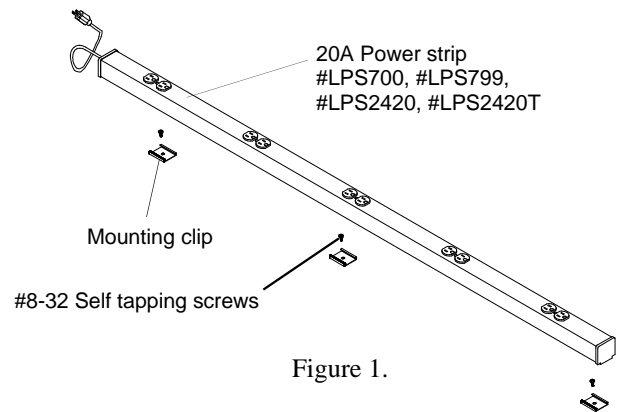
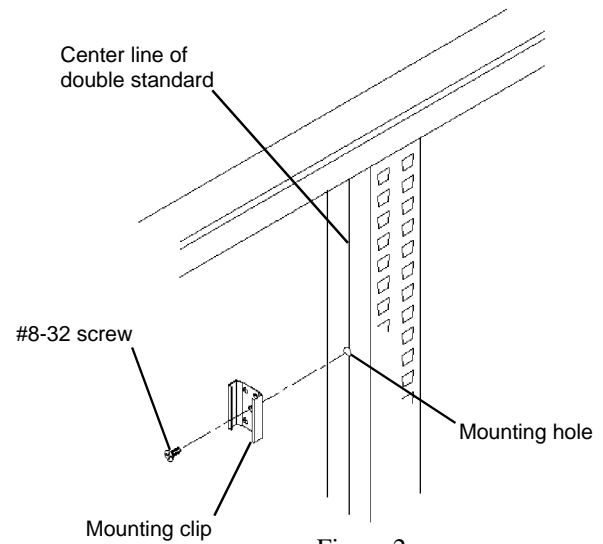

Figure 1.
Figure 2.
1. The Power Strip includes two to three **Mounting Clips** and two to three **#8-32 Self tapping screws** that will attach it to the Frame. See **Figure 1**. Position a Mounting Clip in the highest position, centered on the Standard, and mark this point with a center punch. See **Figure 2**.
**NOTE:** The Mounting Clips attach to the Single Standard in the same manner as the Double Standard. Since there is no feature on the Single Standard that denotes its center, care needs to be taken to ensure that the Mounting Clips are centered on the Standard and they do not interfere with the Upright or Side Frame screws. See **Figure 2**.